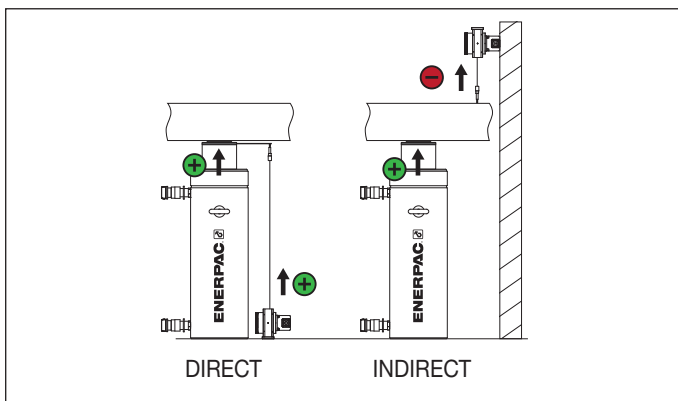

Figure 19, Direct and Indirect layout
1. Position sensor scale: Depending on where is placed the stroke sensor the user must select one of these two options. When the cylinder's plunger movement and the stroke sensor's wire are extending (positive movement), the movement is called Direct. When the cylinder is extending but the stroke sensor wire is retracting (negative movement) the movement is called Indirect. Refer to Figure 19 for further details.